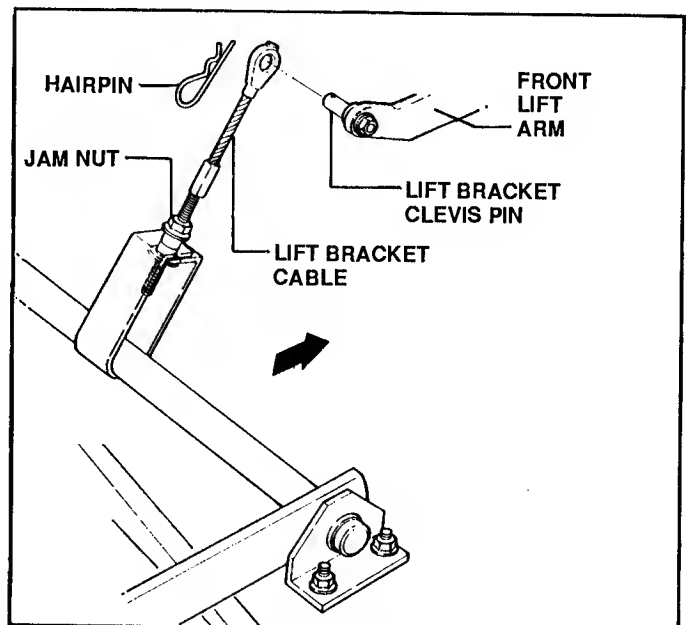

FIGURE 26
- Remove hairpin from FRONT LIFT BRACKET CABLE clevis pin. See Figure 26.